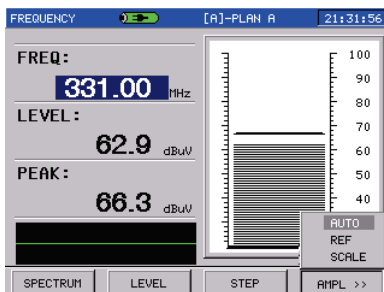

Figure 3-7-3
**AMPLITUDE(F4):**After pressing AMPLITUDE soft key, you can choose **REF** or **SCALE** to change current reference level and scale. As Figure 3-7-3. While popping up the input dialog, you can change the reference level and scale of histogram in the right by turning the knob or inputting directly.